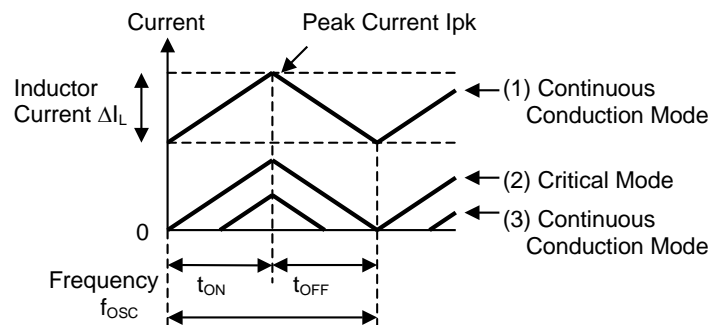

Fig. 7. Inductor Current State Transition
Ideally, the value of L is set so that inductance current is in continuous conduction mode. However, as the load current decreases, the current waveform changes from (1) CCM: Continuous Conduction Mode \rightarrow (2) Critical Mode \rightarrow (3) DCM: Discontinuous Conduction Mode (Fig. 7.).